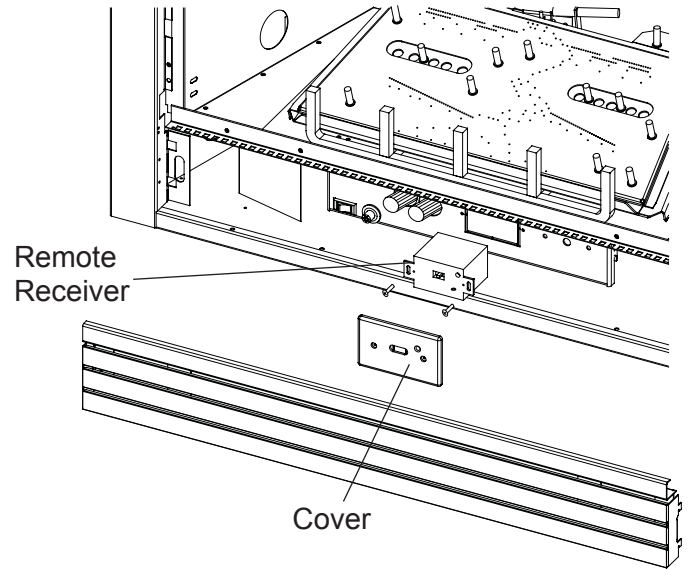

Figure 18 - Installing Remote Receiver
1. Remove cover on control panel to show opening for remote receiver. See Figure 18.
3. Slide remote receiver in the opening of control panel. Use two screws provided to attach remote receiver to the control panel. See Figure 18.